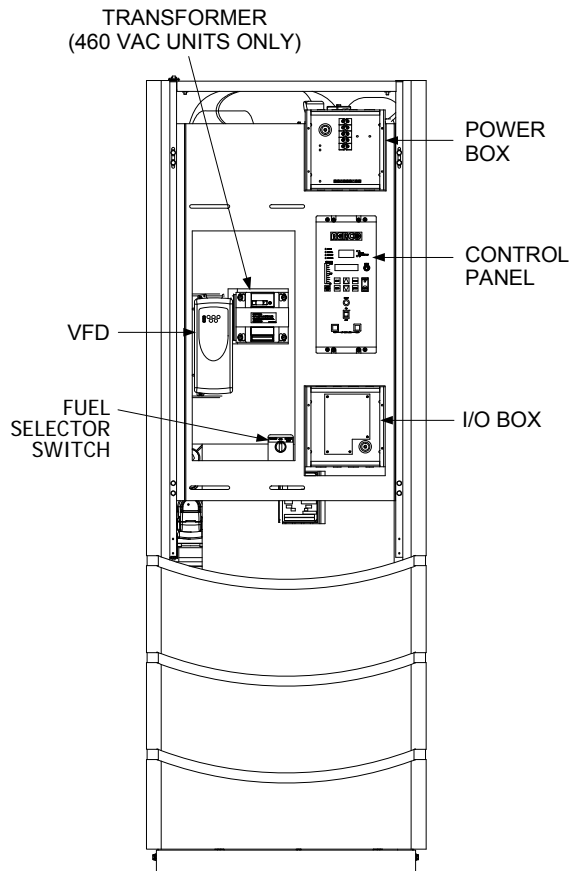
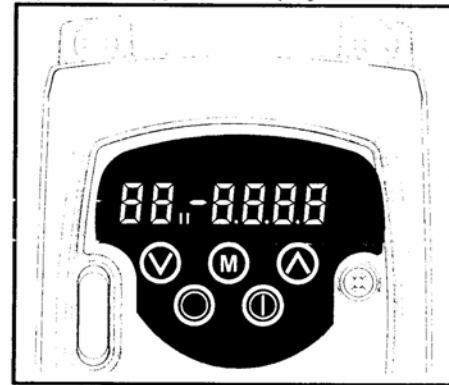

Figure 4-3
Figure 4-6
8. Ensure that the Fuel Selector Switch (Figure 4-3 is in the NATURAL GAS position.
9. Locate the Variable Frequency Drive (VFD) on the front of the unit behind the panel door (Figure 4-3). Insert the "LogicStick" with the "NATURAL GAS" label in the slot on the front of the VFD.
18. Locate the Variable Frequency Drive (VFD) behind the front door of the unit (Figure 4-3). Refer to the VFD operating controls shown in Figure 4-6.
8. Ensure that the Fuel Selector Switch (Figure 4-3) is in the PROPANE position.
9. Locate the Variable Frequency Drive (VFD) on the front of the unit behind the panel door (Figure 4-3). Insert the "LogicStick" with the "PROPANE" label in the slot on the front of the VFD.
15. Locate the Variable Frequency Drive (VFD) behind the front door of the unit (Figure 4-3). Refer to the VFD operating controls shown in Figure 4-6.